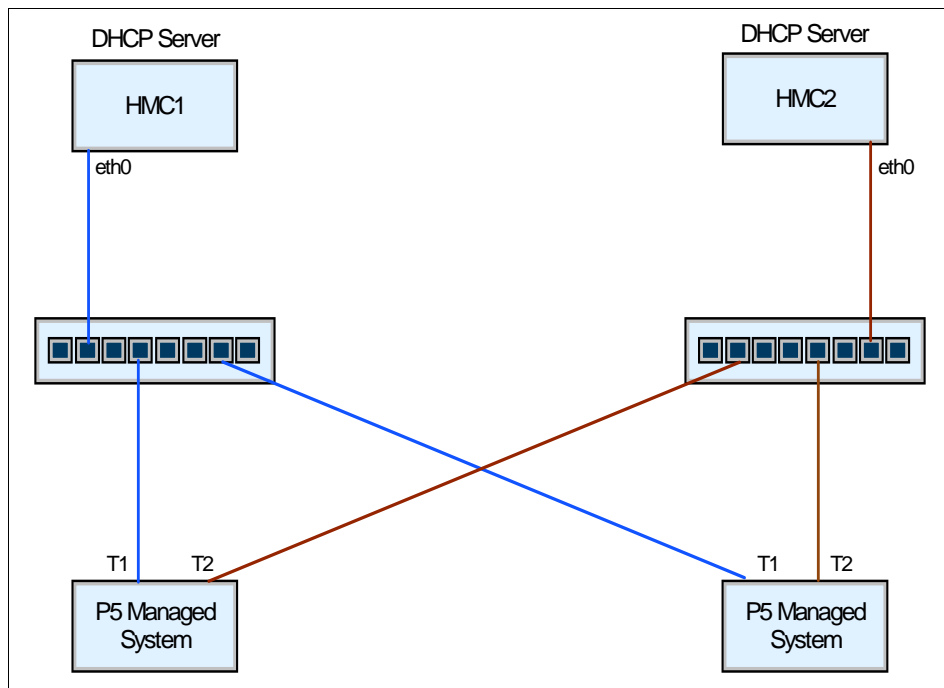

Figure 22 HMCs connected to the SFP using 2 networks
- ▶ Two HMCs on different private networks are shown in Figure 22.
Figure 22 describes two HMCs in different networks both running DHCP servers. The CEC uses two LAN-adapters, one gets the IP-address from HMC1 and the second one from HMC2.